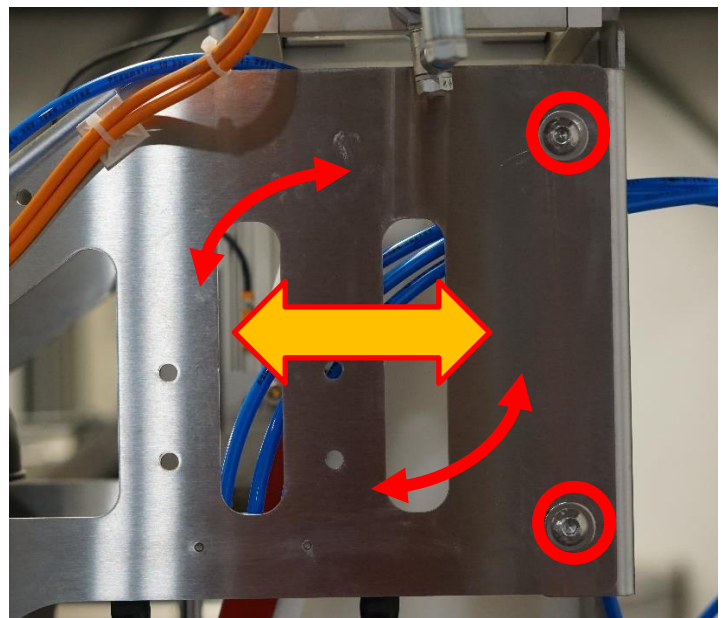

Figure 25 - Lid Slide Tilt Adjustment
2. For forward/backward and tilt adjustments are made using the hex bolts on each side of the lid slide bracket shown in red circles on the bottom-right. The 5/32" T-Handle Hex wrench included with your spare parts kit will fit these. (Figure 25)